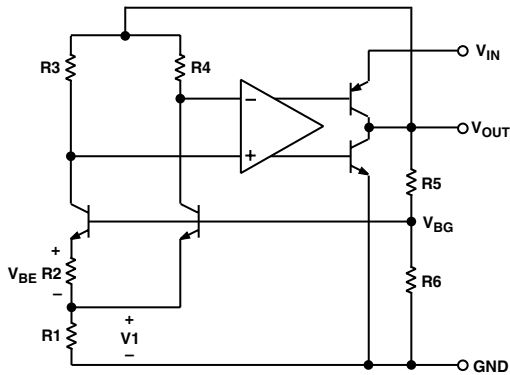

Figure 2. Simplified Schematic
The AD1582/AD1583/AD1584/AD1585 family uses the band gap concept to produce stable, low temperature coefficient voltage references suitable for high accuracy data acquisition components and systems. This family of precision references uses the underlying temperature characteristics of a silicon transistor's base emitter voltage in the forward-biased operating region. Under this condition, all such transistors have a  $-2 \text{ mV}/^\circ\text{C}$  temperature coefficient (TC) and a  $V_{BE}$  that, when extrapolated to absolute zero,  $0^\circ\text{K}$  (with collector current proportional to absolute temperature), approximates the silicon band gap voltage. By summing a voltage that has an equal and opposite temperature coefficient of  $2 \text{ mV}/^\circ\text{C}$  with the  $V_{BE}$  of a forward-biased transistor, an almost zero TC reference can be developed. In the AD1582/AD1583/AD1584/AD1585 simplified circuit diagram shown in Figure 2, such a compensating voltage,  $V_1$ , is derived by driving two transistors at different current densities and amplifying the resultant  $V_{BE}$  difference ( $\Delta V_{BE}$ , which has a positive TC). The sum of  $V_{BE}$  and  $V_1$  ( $V_{BG}$ ) is then buffered and amplified to produce stable reference voltage outputs of 2.5 V, 3 V, 4.096 V, and 5 V.